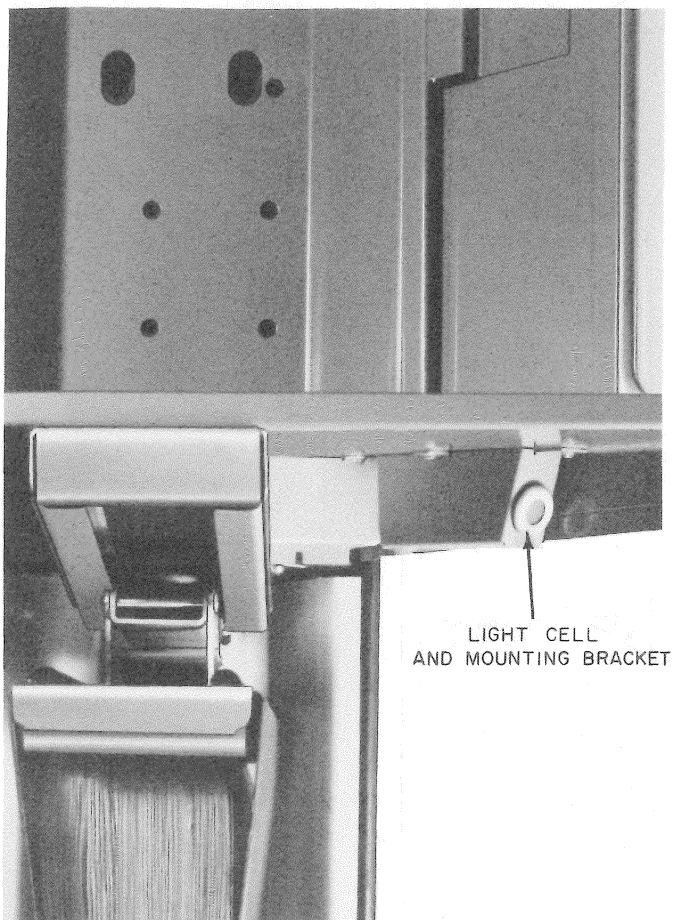

Fig. 19—Installation of Light Cell Mounting Bracket on KS-19426 Mounting
- (i) Secure the bracket to the bottom of the housing as shown in Fig. 19.
- (1) Slide light shield over the panel retaining channels and verify that shield is seated properly against gasket. Ensure that back edge of shield is engaged in KS-19426, List 34 top assembly, or B-564418 subset cover assembly (whichever is applicable).
- (2) Install shield retainer bar across top of housing using four No. 10-24 by 1/2 tamper proof screws, and KS-19192, List 1 wrench.